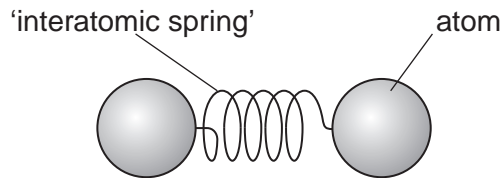

Fig. 7.1
- 4 (a) Atoms in a solid are held in position by electrical forces. These electrical forces can be represented by an imaginary ‘interatomic spring’ between neighbouring atoms, see Fig. 7.1.